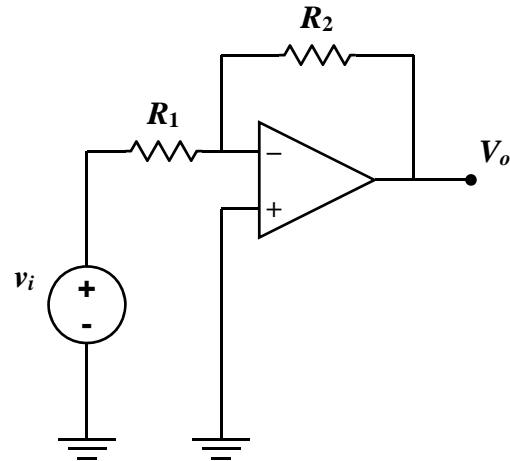

Figure 5.3a
2. Construct the inverting amplifier circuit shown in *Figure 5.3a*, with $v_i = 0.50\text{ V}$, $R_1 = 10\text{ k}\Omega$ and $R_2 = 33\text{ k}\Omega$. Before applying v_i , make sure to apply the positive and negative supply voltages V^+ and V^- (Pins #7 and 4, respectively). Note that the supply voltages are not shown in *Figure 5.3a*